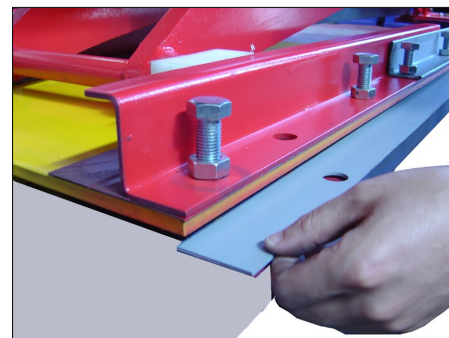

Fig. 17
Before positioning the lift on the ground check, check the level of the equipment basic. If it is not a flat basic, insert the adjustment feet on the base (Fig. 17 & 18).
- Pad a shim (*Fig. 17*)